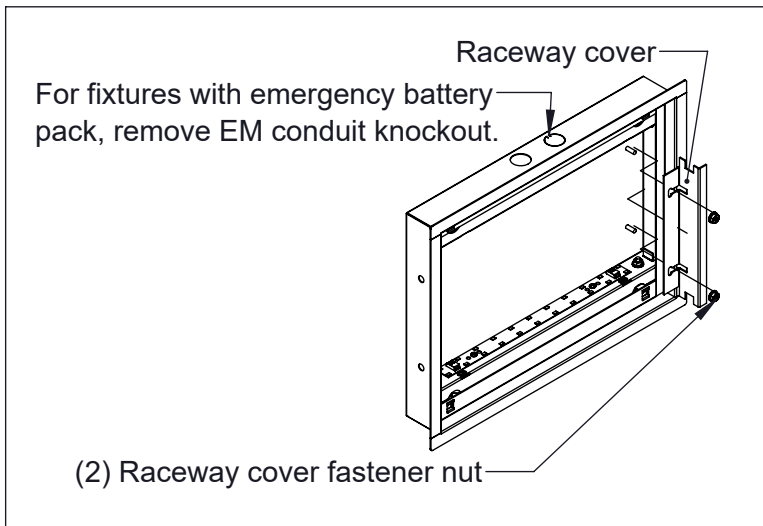
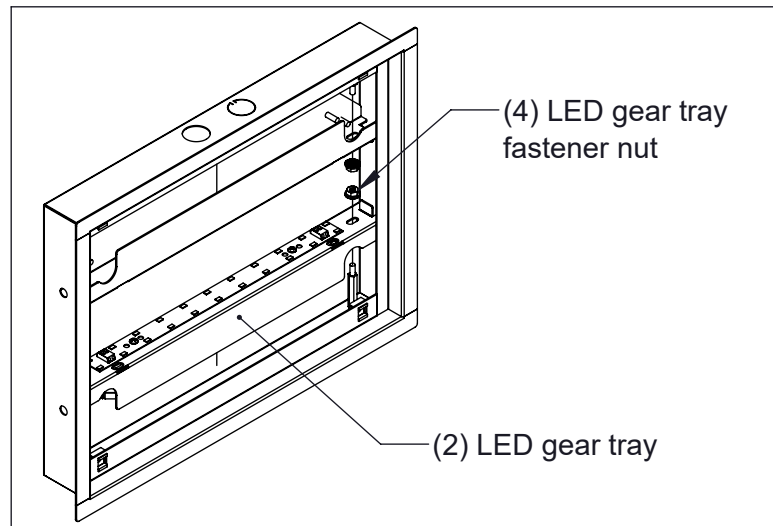

Figure 3
Figure 4
2. Remove raceway cover (Fig. 3) and both LED gear trays (Fig. 4).